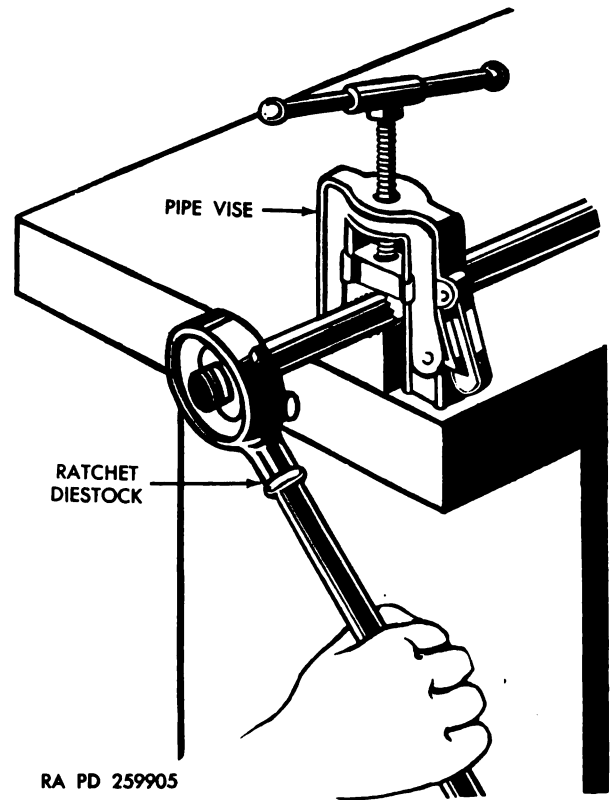

Figure 284. Threading pipe.
- (1) Lock the pipe securely in a pipe vise (fig. 284).
- (2) Inspect the dies to see that they are sharp and free from nicks.
- (7) Rotate the diestock clockwise a few short strokes to start the cut. Lock ratchet and pump handle up and down several strokes (fig. 284).
- (8) Reoil die.
- (9) Reverse ratchet and stroke frequently to free die of chips.
- (10) Thread pipe until threaded end of pipe projects $\frac{1}{4}$ to $\frac{1}{2}$ inch from diestock.
- (11) After threading, set ratchet for reverse operation and back off die.
- (12) Check for proper length of threaded pipe. For determining the length of threaded pipe for standard fittings and couplings for various size pipe, refer to table II.